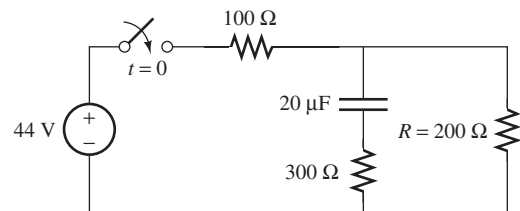

FIGURE P5.33 Circuit for Problem 5.33.
- 5.33 (B) Consider the circuit in Figure P5.33. The switch closes at $t = 0$. Determine $i_C(0^+)$, and the current flow across the resistor R at both $t = 0$ and $t = \infty$.